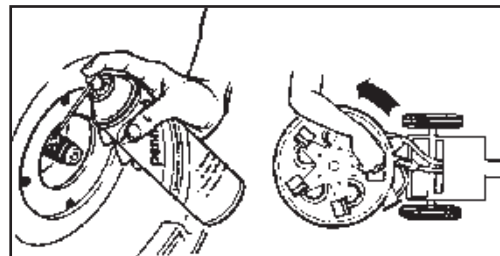

Figure 6-6. Lubricate Shaft and Re-install Head Assembly
13. Coat the shaft with TKX® All-Purpose Lube (HydraMaster P/N 000-087-006) or a similar lubricant. Re-install the vacuum head assembly onto the shaft by rotating it counter-clockwise (Figure 6-6).